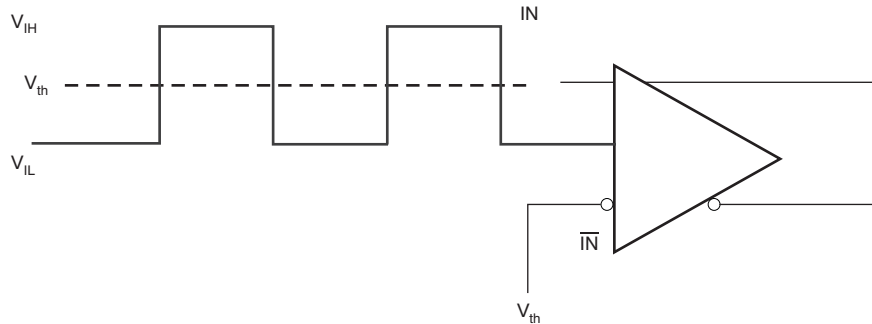
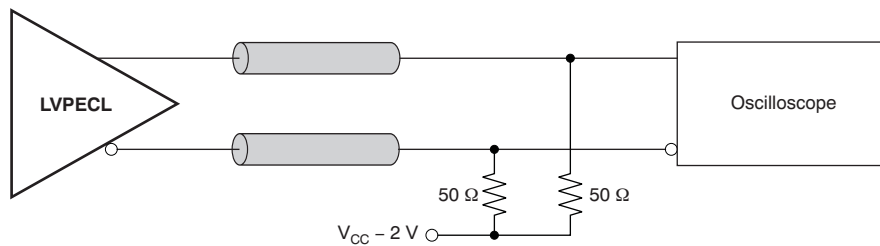
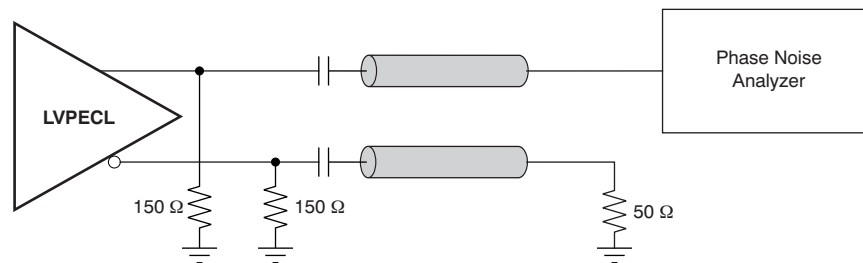

Figure 3. DC-Coupled LVCMOS Input During Device Test
Figure 8. LVPECL Output DC Configuration During Device Test
Figure 9. LVPECL Output AC Configuration During Device Test
(1) Figure 8 and Figure 9 show dc and ac test setup.
(2) Internally generated bias voltage ( $V_{AC,REF}$ ) is for 3.3-V operation only. It is recommended to apply externally generated bias voltage for  $V_{CC} < 3.0\text{ V}$ .
This section describes the function of each block for the CDCLVP1208. Figure 3 through Figure 9 illustrate how the device should be setup for a variety of test configurations.